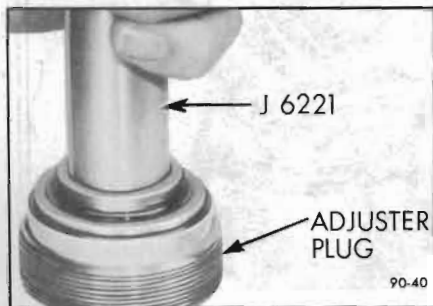

Figure 90-40—Removing Needle Bearing
5. Inspect needle bearing in adjuster plug and if rollers are broken or pitted, remove needle bearing by pressing from thrust bearing end using Tool J-6221 and discard bearing. See Figure 90-40.